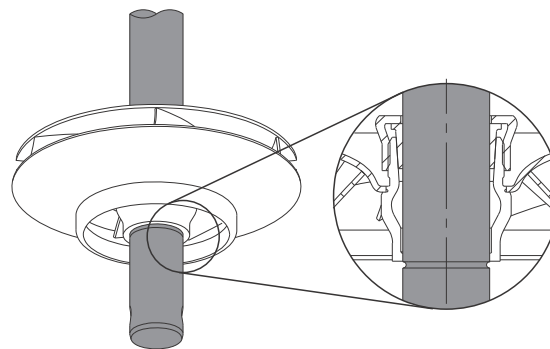

Fig. 13 Checking that the impeller flushes with the shaft groove
1. Fit impeller (pos. 49) onto the shaft and press it home in the inlet part.
2. Fit split cone (pos. 49b) and knock it into the impeller hub using the key for split cone nut.
3. Hold the impeller with the hook spanner and tighten split cone nut (pos. 48).
4. Remove the shaft from the holder and check that the impeller flushes with the shaft groove. See fig. 13.